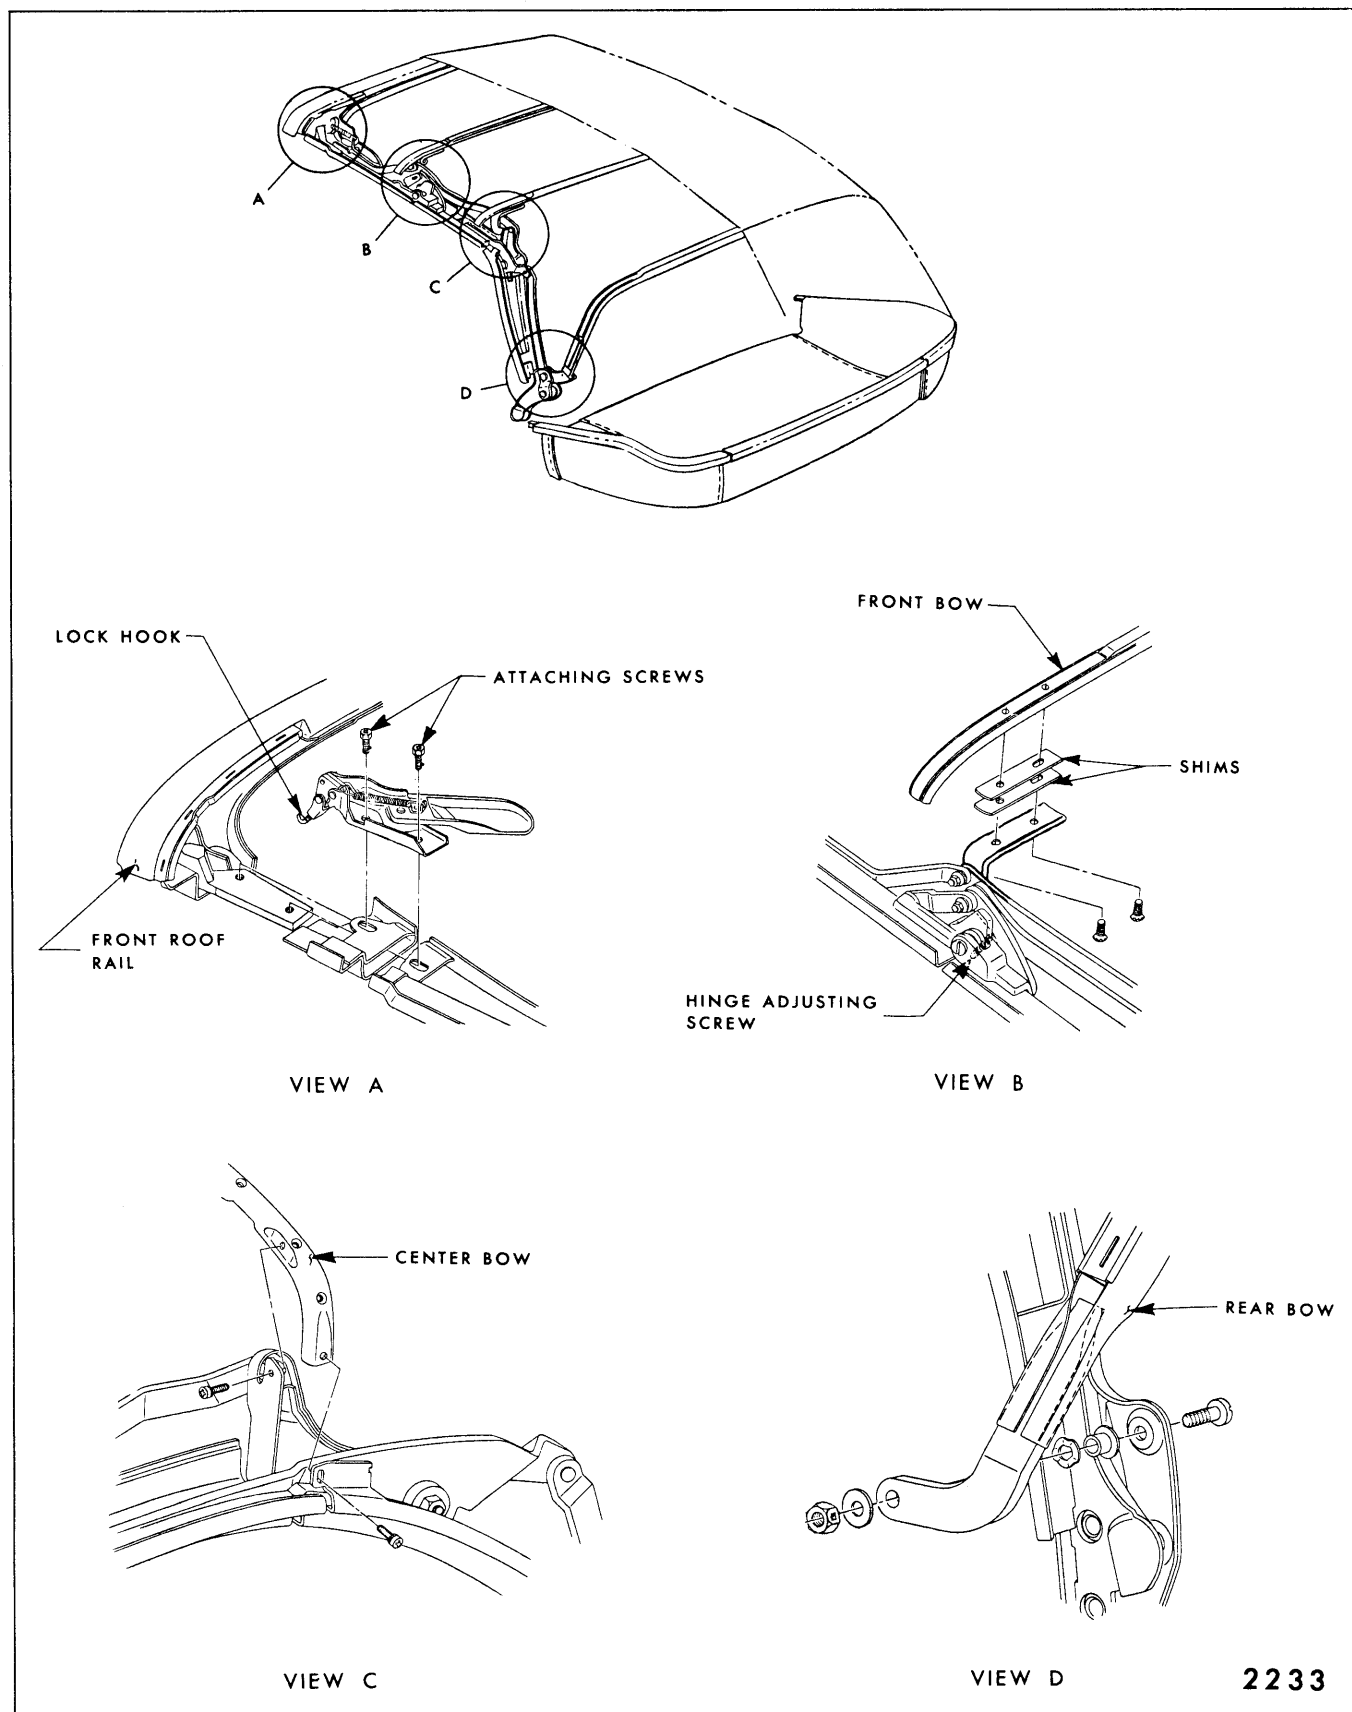

Fig. 13-88—"Z" Body Folding Top Adjustments
3. Front roof rail misaligned.	Adjust front roof rail. (View "A" in Fig. 13-88.)
2. Center side roof rail hinge adjusting screw improperly adjusted.	Adjust screw clockwise. (View "B" in Fig. 13-88.)